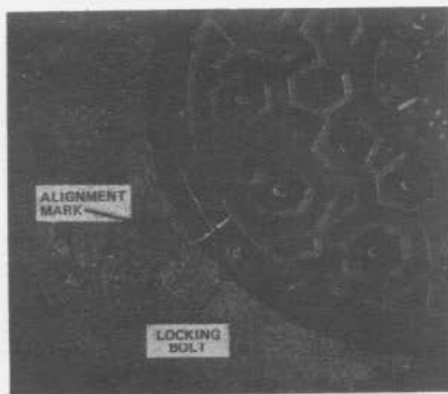

Fig. 43—Alignment Marks and Locking Bolt
7.03 The replacement procedure for the cover is the same as described in Part 6 except that when the locking cover is seated, the alignment marks on the cover and frame must register to permit replacing the locking bolts (Fig. 43). It is advisable to apply a small amount of grease to the threads of the bolts before replacing them to help prevent difficult removal in the future.